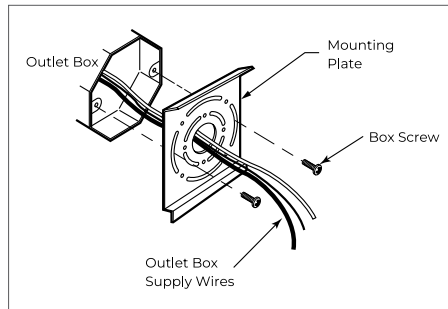

FIGURE 1
C) Feed power supply wires through center hole of mounting plate. Secure mounting plate to junction box using screws so that the fixture mounting points are aligned vertically. (Figure 1)